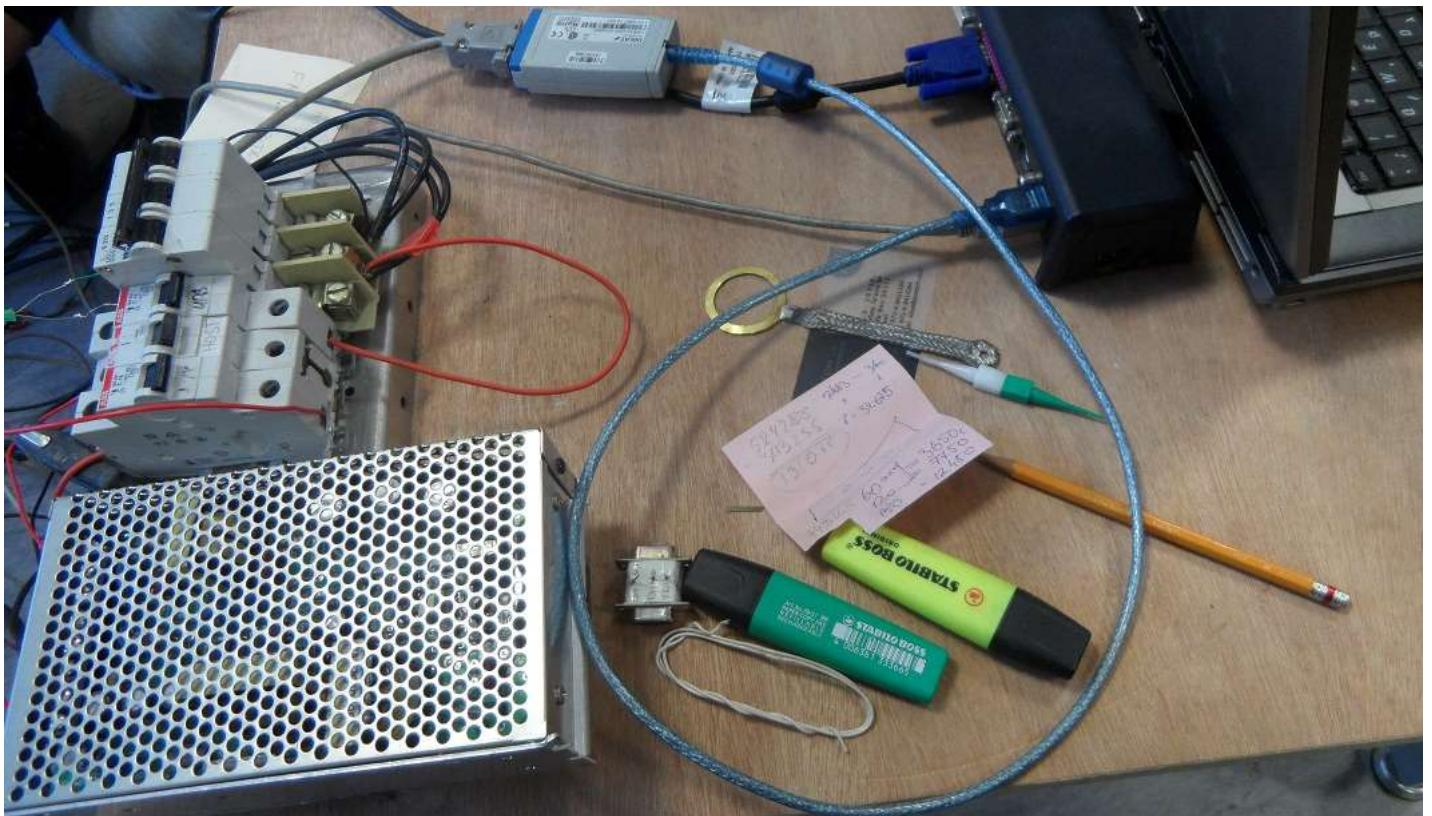
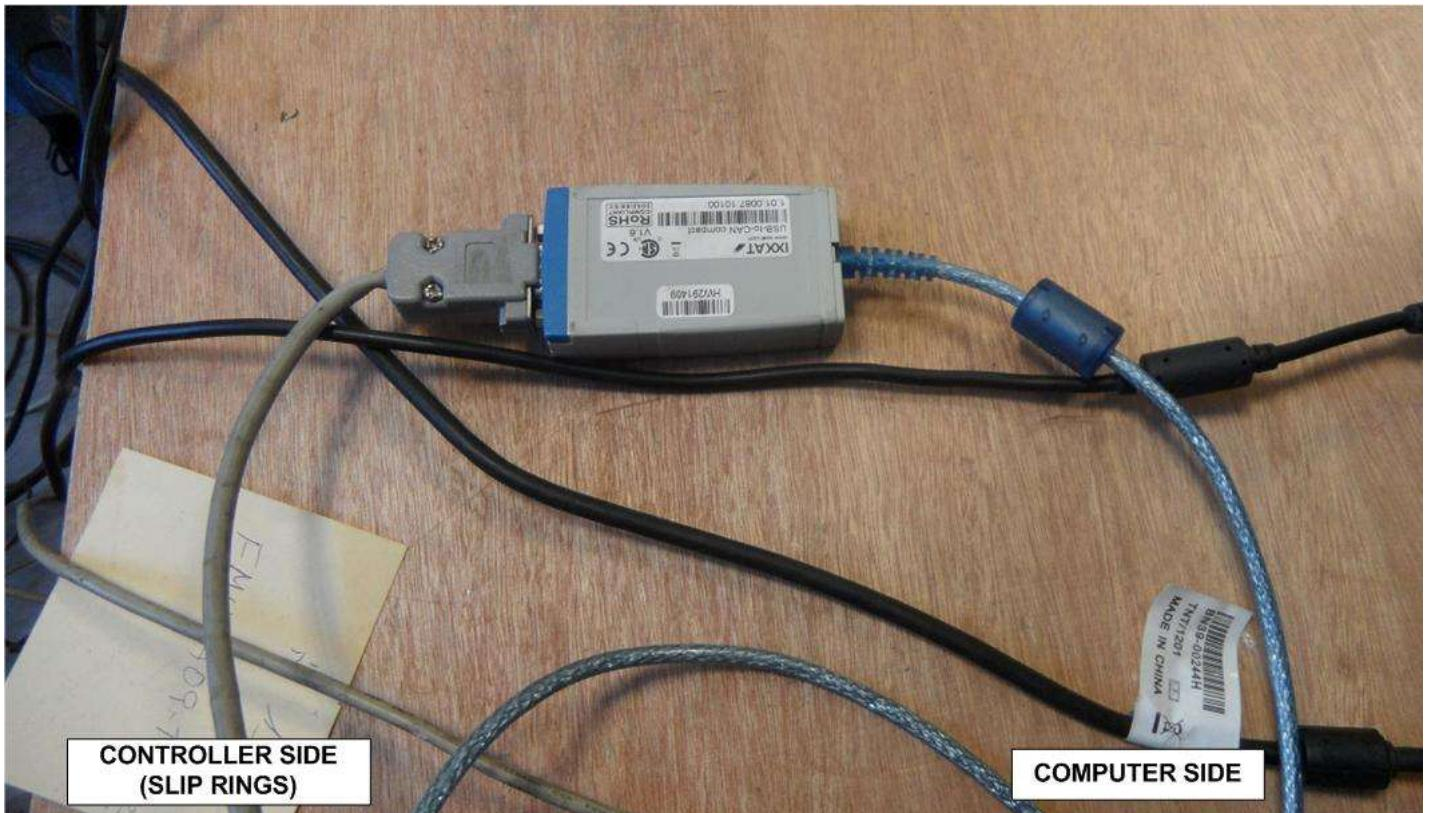

Figure 2-1. Controller Connection – USB Adaptor
Figure 2-2. Controller USB Adapter
The connection to the driver in the Controller is through the Slip Rings (SR) unit fixed part at the base J05 - to allow permanent connection of the special adapter cable into the USB port of the STE computer. (As specified in Figure 2-1 and Figure 2-2)